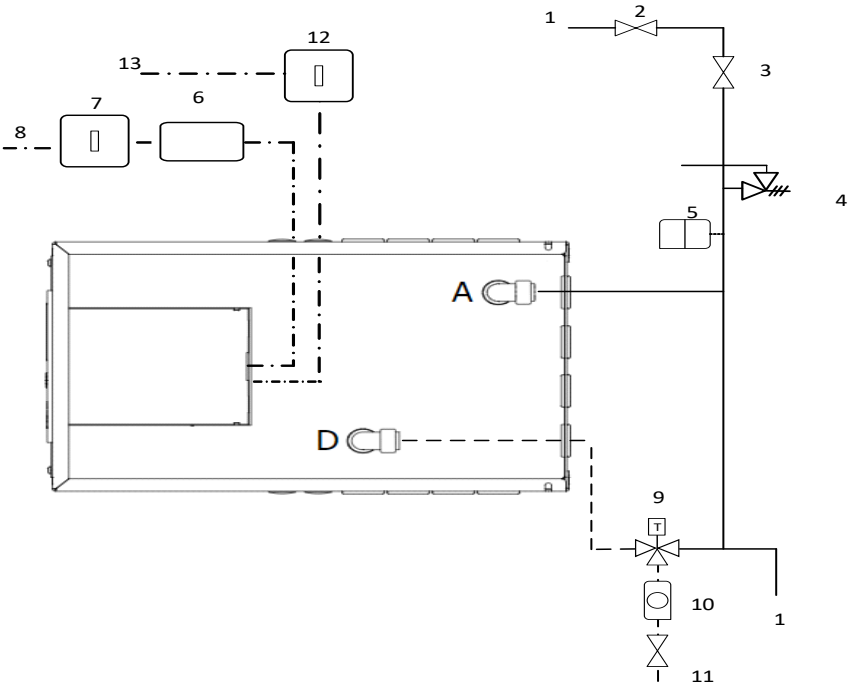

Figure 13.1: Example wiring option 2 schematic (see Figure 3 for tubing and electrical options available)
- Run and connect 3 core mains power supply cable (16A, minimum 2.5mm² CSA) from the local 2-pole isolator 16A to the Heat Battery controller (Figures 13.1 and 13.2).
- Prepare, if necessary and wire the mains power cable in the following terminals (Figure 13.1):